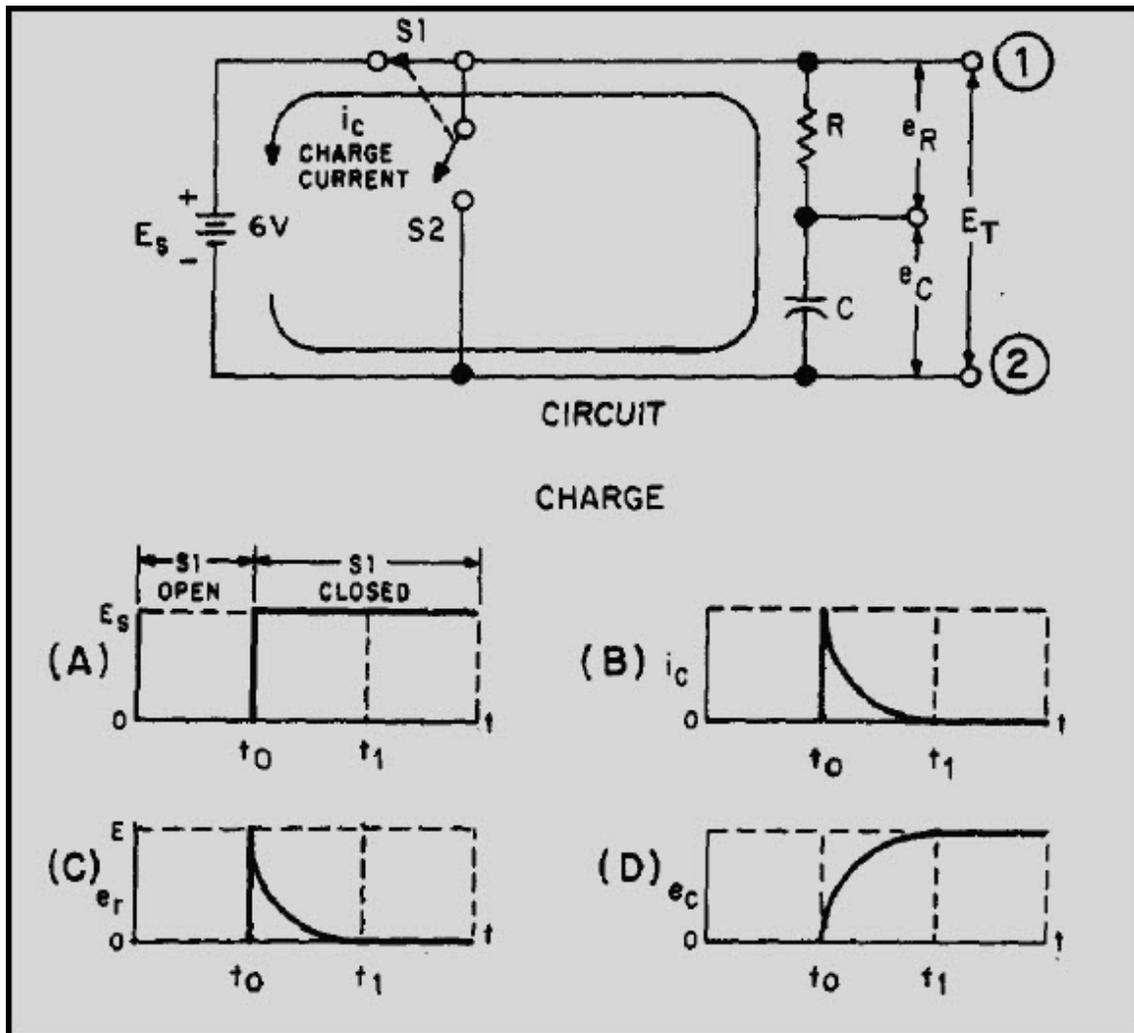
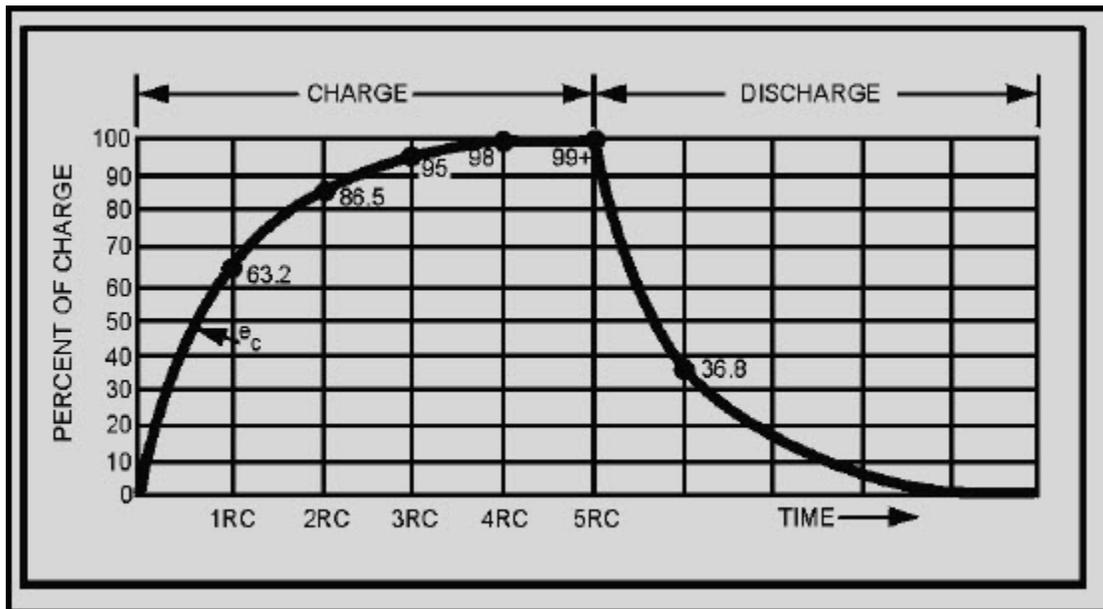

Figure 3-9 Charge of an RC series circuit
Figure 3-11 RC time constant
A voltage divider containing resistance and capacitance is connected in a circuit by means of a switch, as shown at the top of figure 3-9. Such a series arrangement is called an RC series circuit.
When switch S1 of the circuit in figure 3-9 is closed at t_0 , the source voltage (E_S) is instantly felt across the entire circuit. Graph (A) of the figure shows an instantaneous rise at time t_0 from zero to source voltage ($E_S = 6$ volts). The total voltage can be measured across the circuit between points 1 and 2. Now look at graph (B) which represents the charging current in the capacitor (i_c). At time t_0 , charging current is MAXIMUM. As time elapses toward time t_1 , there is a continuous decrease in current flowing into the capacitor. The decreasing flow is caused by the voltage buildup across the capacitor. At time t_1 , current flowing in the capacitor stops. At this time, the capacitor has reached full charge and has stored maximum energy in its electrostatic field. Graph (C) represents the voltage drop (e_r) across the resistor (R). The value of e_r is determined by the amount of current flowing through the resistor on its way to the capacitor. At time t_0 the current flowing to the capacitor is maximum. Thus, the voltage drop across the resistor is maximum ($E = IR$). As time progresses toward time t_1 , the current flowing to the capacitor steadily decreases and causes the voltage developed across the resistor (R) to steadily decrease. When time t_1 is reached, current flowing to the capacitor is stopped and the voltage developed across the resistor has decreased to zero.
The time required to charge a capacitor to 63 percent (actually 63.2 percent) of full charge or to discharge it to 37 percent (actually 36.8 percent) of its initial voltage is known as the TIME CONSTANT (TC) of the circuit. The charge and discharge curves of a capacitor are shown in figure 3-11. Note that the charge curve is like the curve in figure 3-9, graph (D), and the discharge curve like the curve in figure 3-9, graph (B).
The graphs shown in figure 3-11 and 3-12 are not entirely complete. That is, the charge or discharge (or the growth or decay) is not quite complete in 5 RC or 5 L/R time constants. However, when the values reach 0.99 of the maximum (corresponding to 5 RC or 5 L/R), the graphs may be considered accurate enough for all practical purposes.